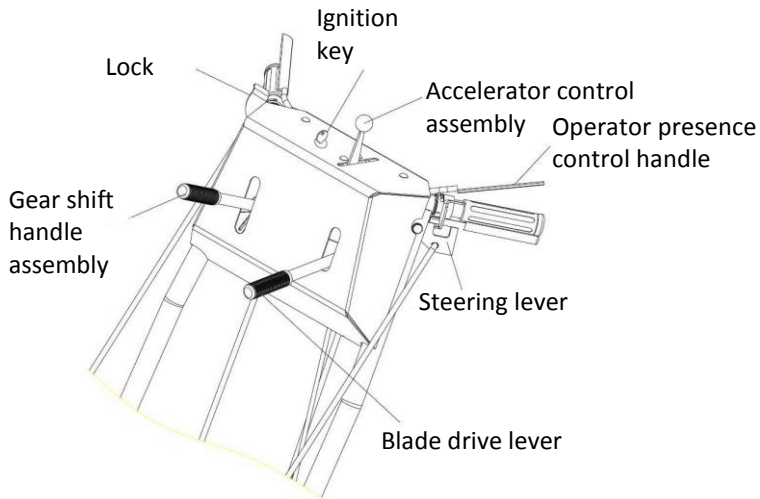

Figure 1
2.4 Operator controls (see Figure 1)